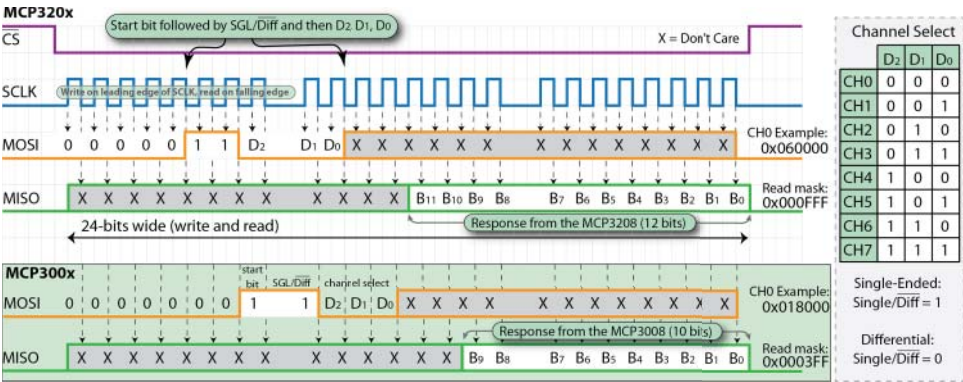

Figure 9-3: Reading data from the 12-bit MCP320x and the 10-bit MCP300x families of SPI ADCs
- The channel is selected using a three-bit identifier ($2^3 = 8$), as illustrated on the right side of Figure 9-3.
The data transaction takes 24 serial clock (SCLK) cycles. The RPi writes low bits followed by a start bit (high), the SGL/Diff bit (high for a single-ended configuration), and the three channel-select bits. The write takes place on the rising edge of the clock signal. The MCP320x then sends 12 bits of data back to the RPi on the falling edge of the clock signal (delayed by 3.5 clock cycles). The signal patterns required for the MCP300x are also identified at the bottom of Figure 9-3. They are almost the same, but because 10 bits are returned rather than 12 bits, there are two fewer leading lows on the MOSI (D_{IN}) line.
This code in Listing 9-1 can be easily adapted to read from all eight of the channels by altering the three channel select bits, as described in Figure 9-3. For example, if the LDR circuit was connected to CH7 (111), then the send bytes would be `send[0]=0b00000111` and `send[1]=0b11000000` for the MCP3208.